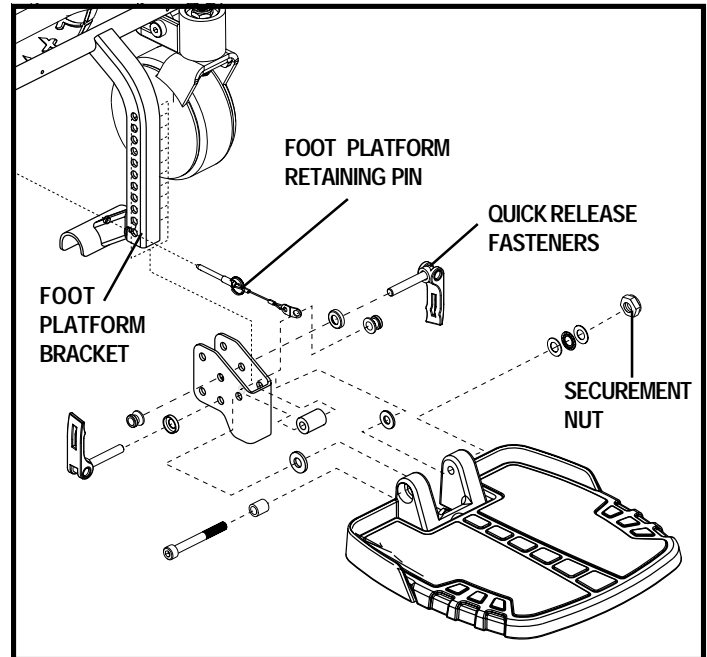
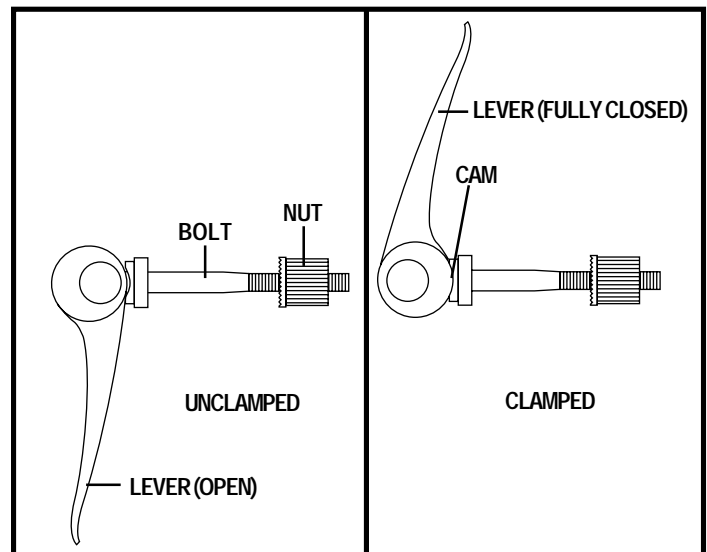

Figure 15. Foot Platform Adjustment
Figure 16. Quick Release Fastener Operation
1. Remove the quick release fasteners from the foot platform bracket. See figure 15.
Quick Release Fasteners: The foot platform is attached to the power base with two quick release fasteners. See figure 15. Each quick release fastener consists of a bolt, a lever, and a nut. See figure 16. The lever has a cam on the end that allows it to clamp into place. The quick release fastener has
You can adjust the angle of the foot platform with a hex key. See figure 15.